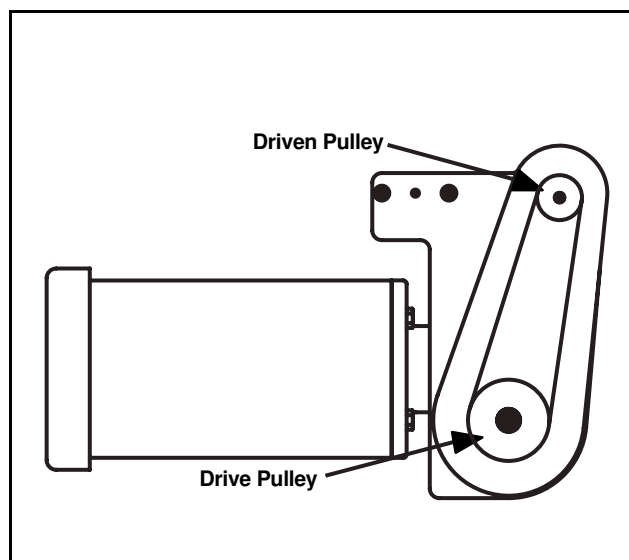

Figure 4
2. Determine the pulley kit ratio. Count the number of teeth on the drive and driven pulleys following figure 4. Using table 18, look up pulley ratio based on pulley combinations.